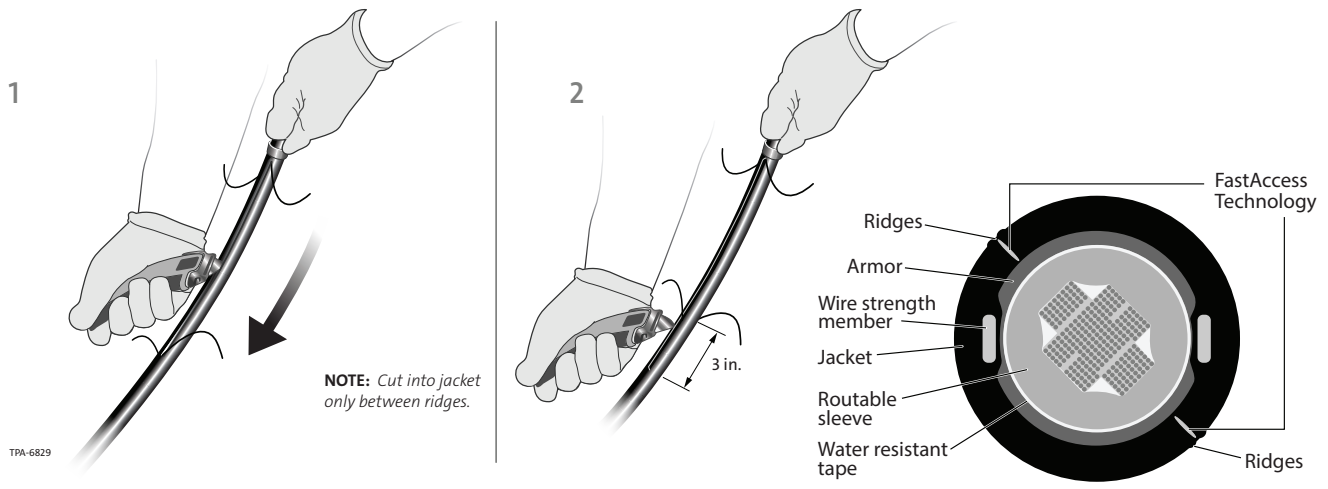

Figure 22
Step 3: Bend back wires on both ends. On one side of the mid-span cut down to the armor in the channel where the wires were located. Repeat on opposite side of cable. Do not cut through armor. Then cut a 3 inch length between the FastAccess® technology ridges on one end down to the armor but not through the armor. Only cut through the jacket material. These cuts are made on the end toward the mid-span opening and are only done on one side of the mid-span (Figure 22). Perform 3 inch cuts on both sides of the cable.